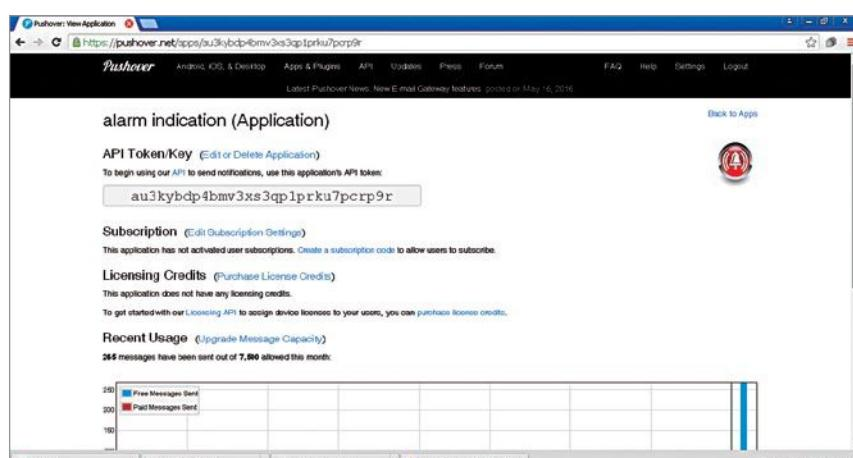

Fig. 5: Typical API key
4. To get API key, click on Your Applications (doorbell) and note down your API token/key (like, au3kybdp4bmv3xs3qp1prku7pcrp9r) as shown in Fig. 5.